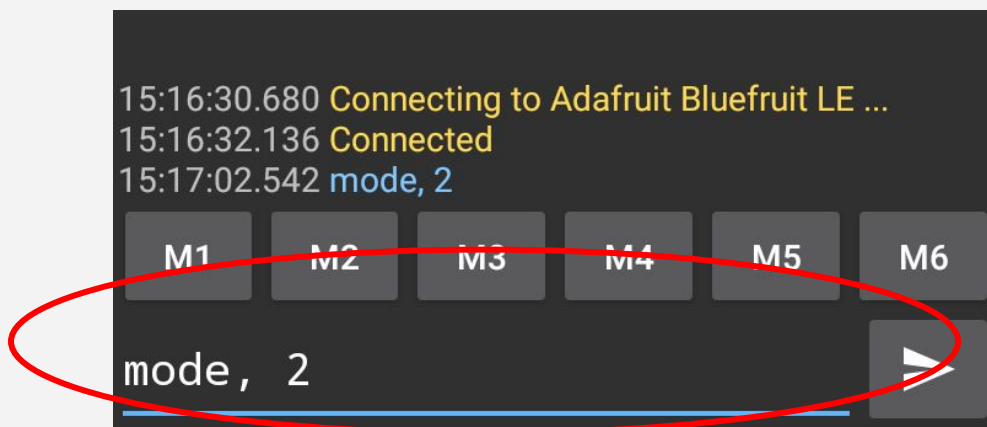

Figure 11
9. Enter Serial commands (figure 11). Full list of available commands on p.11&12 Ensure all spelling and punctuation is exactly as shown in instructions.
3. Open the app- a list of available devices will appear (figure 11).
4. Find and connect to Adafruit Bluefruit LE (figure 11)
Figure 11 - All available Bluetooth devices will show up on the app. Find the device called Adafruit Bluefruit LE- that is the Braze Sentina. If a newer version of the system is used, the device will be called Braze Sentina